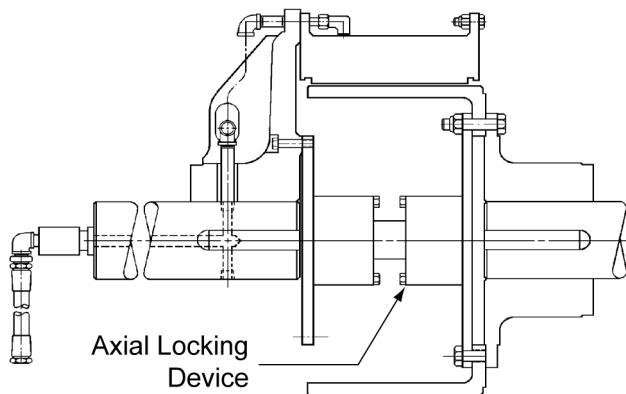

Figure 3
- 1.2.2 For applications where the clutch is mounted on a motor shaft having plain bearings, an axial locking device is used to hold the motor on magnetic center during operation. See **Figure 3**. Refer to the **INSTALLATION** section for axial locking device adjustment.